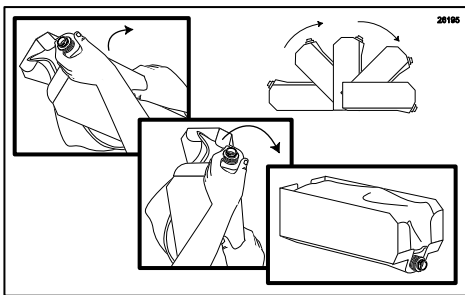

Figure 158
7. Holding the fitment in place, raise the open end of the tray and flip the tray right side up. As the tray is set back down, allow the bag to settle in the tray. (See Figure 158.)